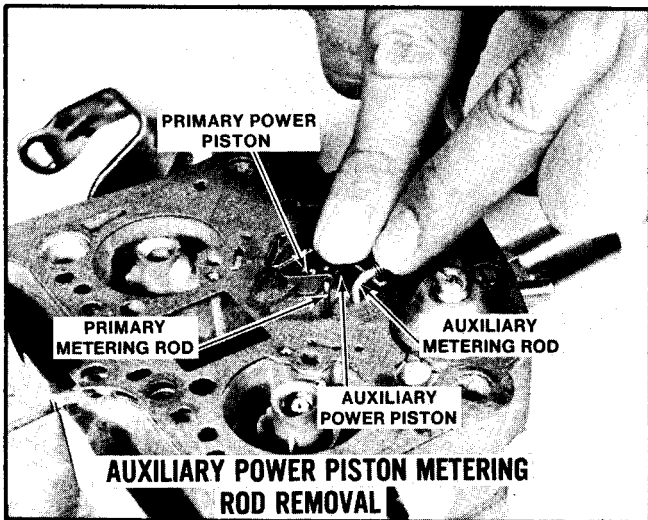

Figure 50 Auxiliary Power Piston Metering Rod Removal
4. For models that have an auxiliary (front) power piston (as shown in Figure 50), hold auxiliary power piston and swing hanger toward front of carburetor while at the same time pushing rearward on metering rod and compressing rod spring retainer until groove in rod aligns with slot in hanger. Then remove rod by lifting it up and out of the fixed metering jet. Hold main (rear) primary power piston down and swing auxiliary (front) power piston hanger rearward until it touches the primary power piston — then release the primary piston and remove air horn gasket per step 3 above.